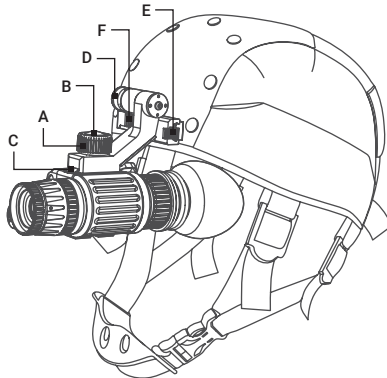

FIGURE 2-2. MOUNTING NVM TO A GOGGLE KIT
Mount the NVM to the goggle kit as follows (refer to Figure 2-2):
Figure 2-2 shows the NVM in the correct position for the left eye. To readjust the unit for the other eye, remove the unit from the goggle kit bracket. Turn the unit around (180°) and mount it on the bracket through the rail on the second side. With the button (E) pushed, move the unit along the slide-rail (F) until the desired, most comfortable position is reached.